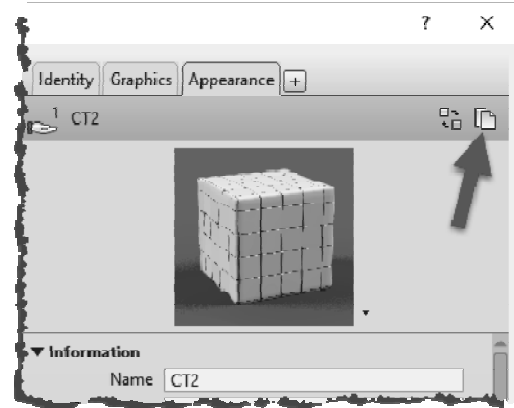

FIGURE 4-4.12 Duplicate asset icon
43. On the *Appearance* tab, click the “Duplicate this asset” icon (Figure 4-4.12).
45. Now switch back to *Material CT2* and rename the *Appearance* asset CT2(1) to **CT2**.